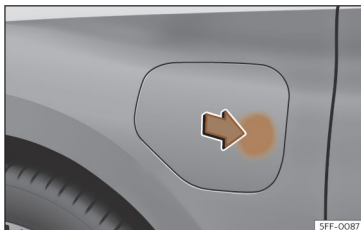

Fig. 58 Opening the charging socket cover.
- With the vehicle unlocked, the battery charging cover opens when the indicated zone is pressed >>> Fig. 58.